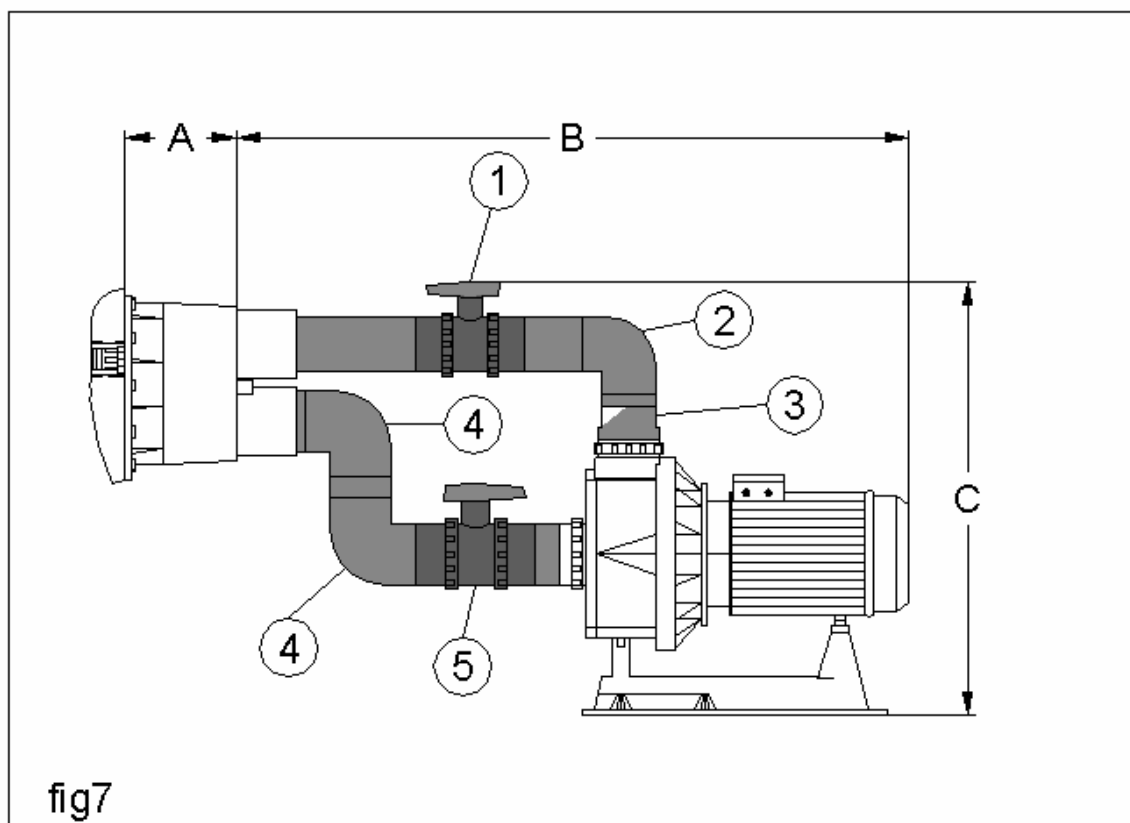

fig7
-Glue a Ø75mm pipe* to the discharge mouth of the niche (see fig.7).
-Glue the Ø75mm valve (nº1 fig.7) to the Ø75mm pipe*.
-Glue a 75mm pipe* to the Ø75mm valve (nº1 fig 7).
-Glue the Ø75mm elbow (nº2 fig 7) to the Ø75mm pipe*.
-Glue a Ø75mm pipe* to the elbow (nº2 fig 7).
-Glue a 90/75/63mm conical reducer (nº3 fig7) to the Ø75mm elbow (nº2 fig 7) and the Ø90mm connector on the pump.
-Using a pipe of Ø90mm*, glue an elbow of Ø90mm (nº4 fig. 7) to the suction mouth on the niche (see fig 7).
-Using a pipe of Ø90mm* join the other elbow of Ø90mm (nº4 fig 7) to the elbow already glued (seer fig 7).
-Glue the Ø90mm valve (nº5 fig 7) to the elbow (nº 4 fig 7) using a pipe of Ø90mm* to join them.
-Glue a pipe of Ø90mm* to the valve (nº5 fig 7) and to the pump connector of Ø90mm.